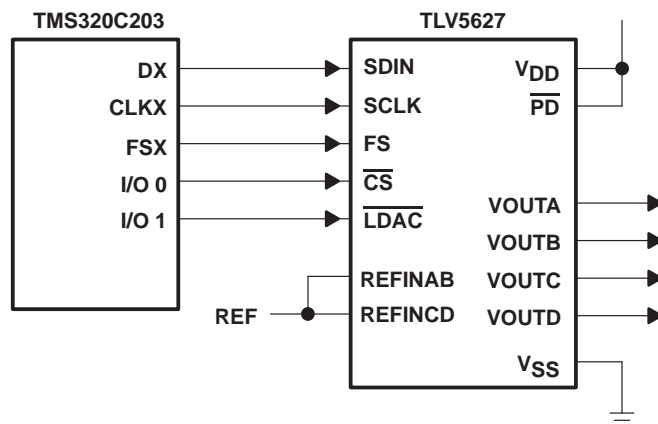

Figure 17. TLV5627 Interfaced with TMS320C203
Figure 17 shows an example of how to connect the TLV5627 to a TMS320C203 DSP. The serial port is configured in burst mode, with FSX generated by the TMS320C203 to provide the frame sync (FS) input to the TLV5627. Data is transmitted on the DX line, with the serial clock input on the CLKX line. The general-purpose input/output port bits IO0 and IO1 are used to generate the chip select ($\overline{\text{CS}}$) and DAC latch update ($\overline{\text{LDAC}}$) inputs to the TLV5627. The active low power down ($\overline{\text{PD}}$) is pulled high all the time to ensure the DACs are enabled.